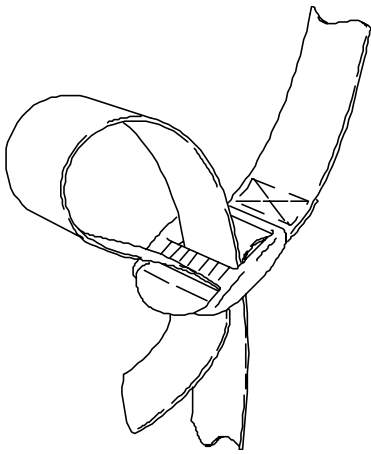

FIGURE 2 - PROPER METHOD OF THREADING FRICTION BUCKLES.
4. Thread the strap ends through the buckles provided (FIGURE 2) and take up the excess slack.